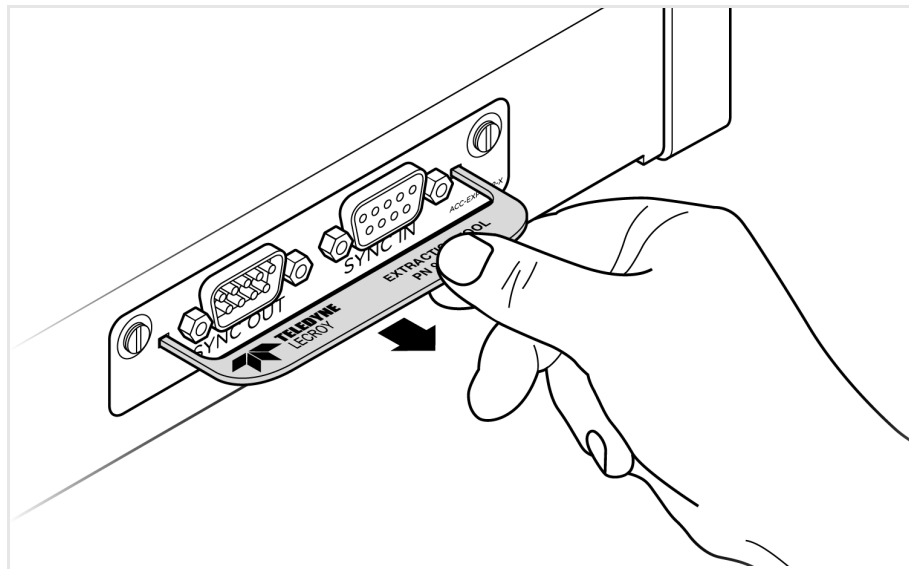

Figure 2.42: Use of Extraction Tool to Remove Card
5. Using the extraction tool as a handle, gently wriggle the expansion card forward, about 1/8" (Figure 2.42).